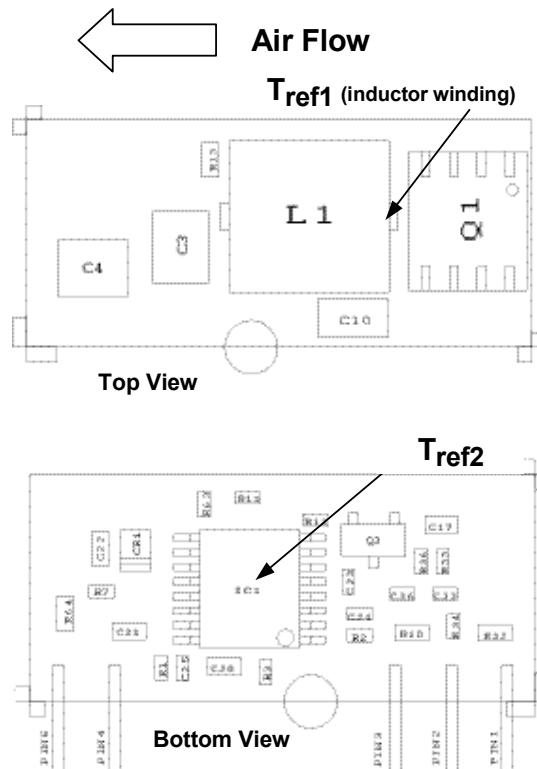
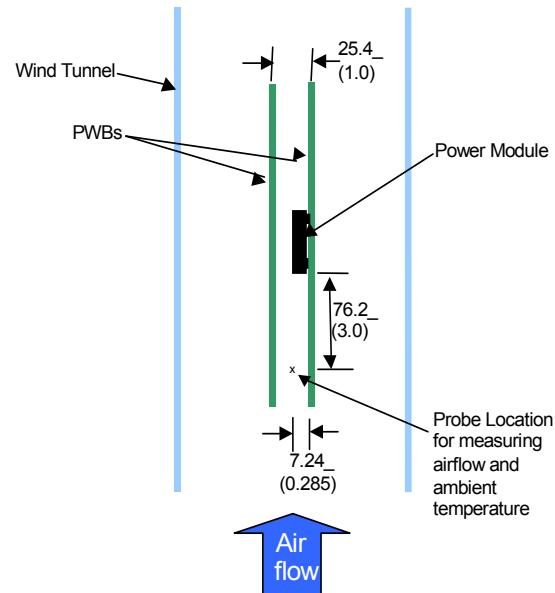

Figure 31. T_{ref} Temperature measurement location.
Figure 32. Thermal Test Set-up.
To provide over temperature protection in a fault condition, the unit relies upon the thermal protection feature of the controller IC. The unit will shutdown if the thermal reference point T_{ref2}, (see Figure 31) exceeds 140°C (typical), but the thermal shutdown is not intended as a guarantee that the unit will survive temperatures beyond its rating. The module will automatically restart after it cools down.
Considerations include ambient temperature, airflow, module power dissipation, and the need for increased reliability. A reduction in the operating temperature of the module will result in an increase in reliability. The thermal data presented here is based on physical measurements taken in a wind tunnel. The test set-up is shown in Figure 32. Note that the airflow is parallel to the long axis of the module as shown in figure 31. The derating data applies to airflow in either direction of the module's long axis.
The thermal reference point, T_{ref} used in the specifications of thermal derating curves is shown in Figure 31. For reliable operation this temperature should not exceed 125°C.